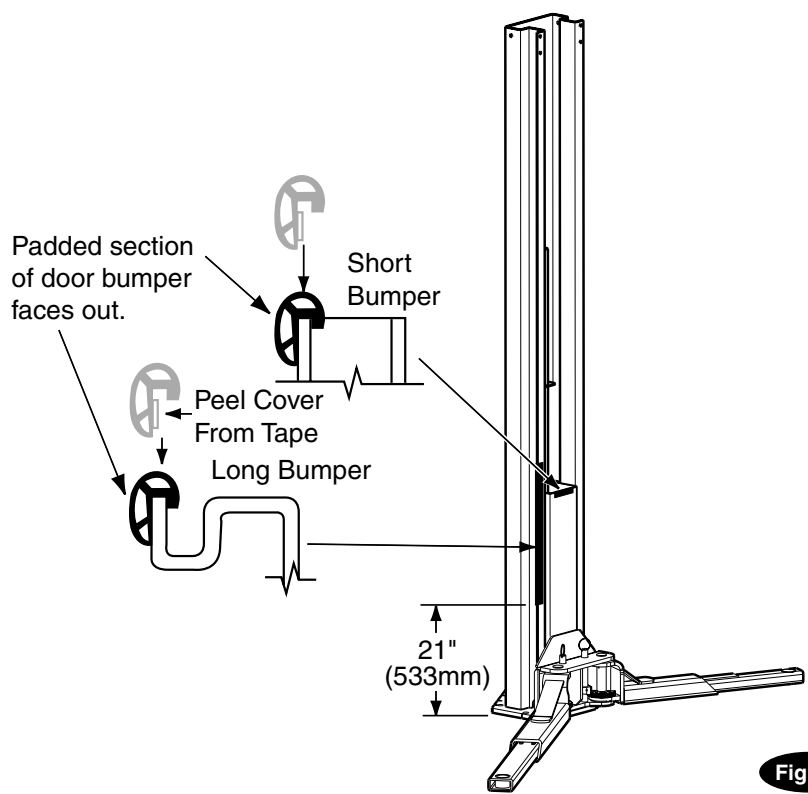

Fig. 32
A) Press long bumper on column edge, Fig. 32.
B) Press short bumper on top edge of carriage tube, Fig. 32.